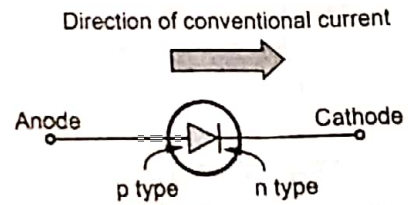

Fig. Q.4.1 Symbol of a diode
- Its symbol is shown in the Fig. Q.4.1. The arrowhead in the symbol indicates the direction of the conventional current which can flow when an external voltage is applied in a specific manner across the diode.